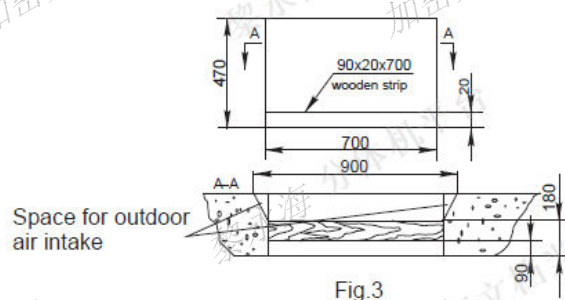

Fig.3
- 3、 The square hole should be smooth enough if the appliance is installed through a wall. A space as shown in fig.3 for outdoor air intake should be prepared if the wall is too thick.